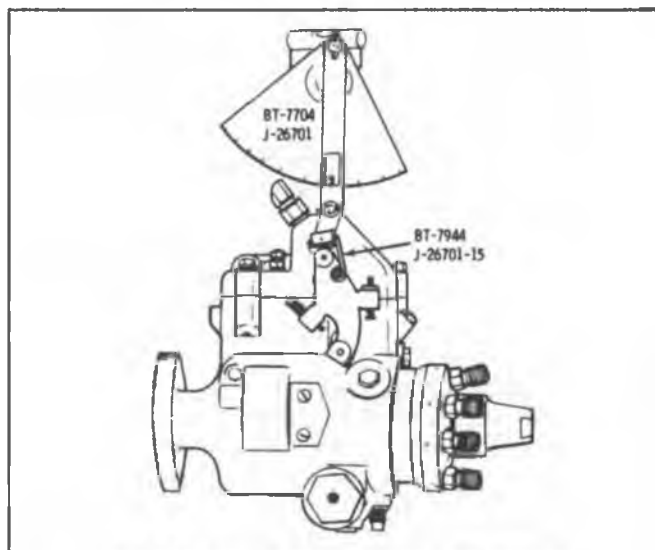

Fig. 2-16 Vacuum Regulator Valve Adjustment
8. Rotate throttle lever so level bubble is centered (Fig. 2-16).